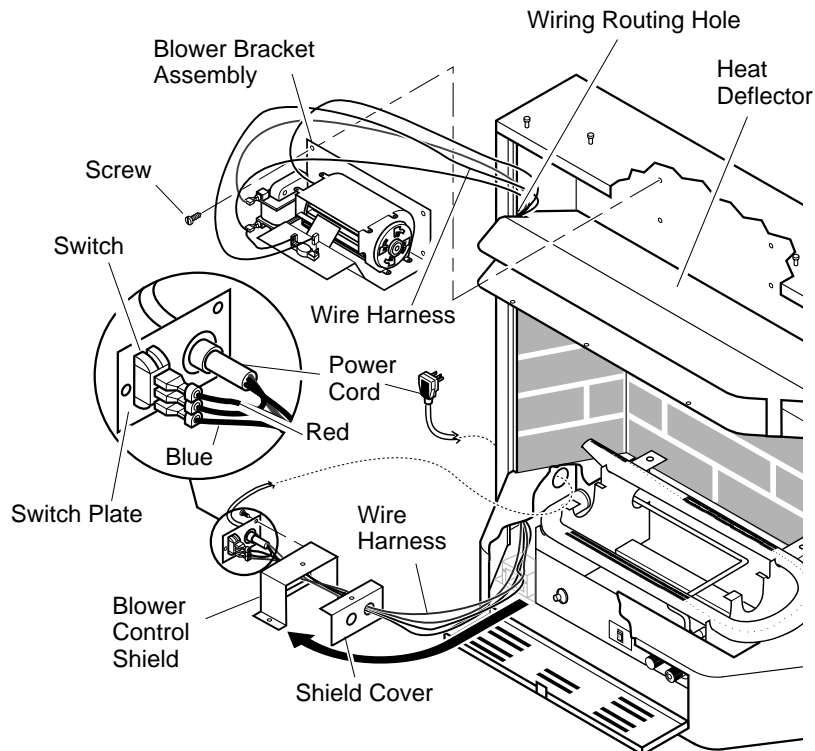
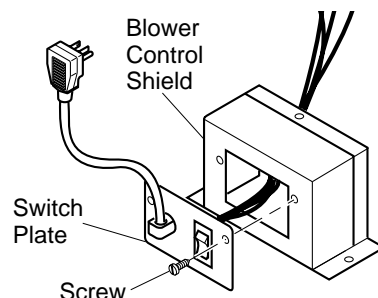

Figure 16 - Installing Blower Bracket Assembly
Figure 17 - Installing Switch Plate to Blower Control Shield
4. Note the wire locations on back of AUTO/OFF/ON switch. Carefully remove red wire from the AUTO terminal and blue wire from the ON terminal. Black wire can remain on middle or OFF terminal (see Figure 16).
6. In top of the heater cabinet, locate the four mounting holes on the outer casing. Align these four holes with those on the blower bracket assembly. Attach blower bracket assembly to the outer casing with 4 - #10 screws provided (see Figure 16).
7. Route the wire harness through the hole to the left side of heat deflector. Pull wire harness through lower opening to the left of the blower control shield. (see Figure 16).
8. Insert the 4 wire harness into one of the round holes in the rear of the blower control shield and through the rectangular hole in the front of shield (see Figure 16).
10. Install the switch plate on the blower control shield with 2 - #10 screws provided (see Figure 17). Route power cord out of the cabinet by inserting it through the bushing on the outer casing (see Figure 16). Plug fan kit into 120-Volt grounded power supply and test operation. **Note:** When switch is in the AUTO